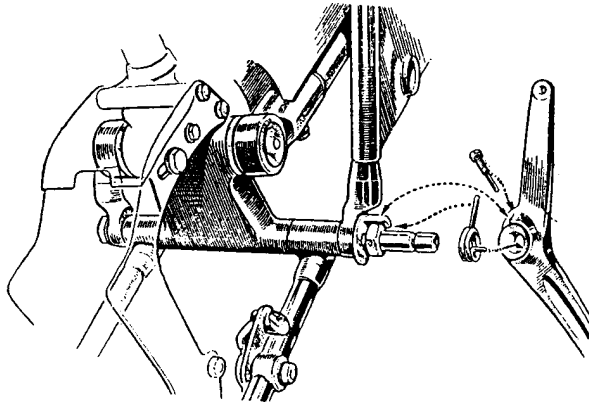

FIG. 62. ADJUSTMENT FOR REAR-BRAKE PEDAL (1945-55)
- (1) Adjust the position of the rear-brake pedal to suit individual requirements.
- (2) Make a minor hand-adjustment of both brakes.
- (3) Effect a major adjustment of both brakes by means of the brake shoes.
To Adjust Brake Pedal Position (1945-55). If the existing position of the rear-brake pedal on your A.J.S. does not suit you it is possible to vary the pedal position within narrow limits (see Fig. 62) by means of the adjuster bolt (4) screwed into the heel of the pedal and secured by the lock-nut (5).
KEY TO FIG. 62